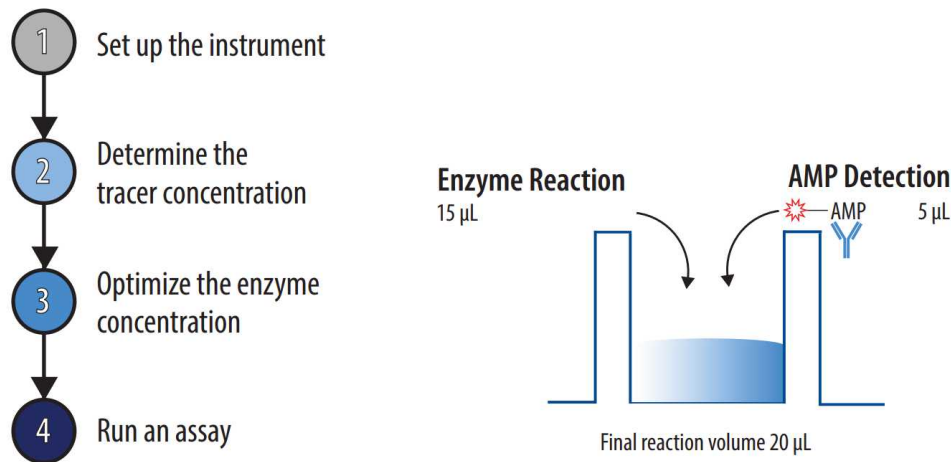

Figure 2. An outline of the procedure. The assay consists of 4 main steps with a mix-and-read format.
- 4 The Transcreener® EPIGEN Methyltransferase Assay protocol consists of 4 steps (**Figure 2**). The protocol was developed for a 384-well format, using a 15 µL enzyme reaction and 20 complete assay volume at the time that the plates are read. The use of different densities or reaction volumes will require changes in reagent quantities.